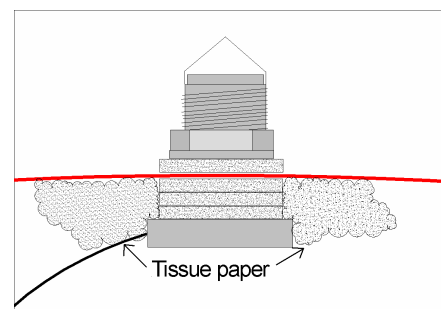

FIG 5 Push the tissue tight around the gasket
- 2) Once satisfied that the sensor is correctly located and tightened stuff some tissue paper around the internal gasket between the sensor head housing and the canopy. Ensure the tissue paper is tightly pressed against the gasket as shown in fig 5.